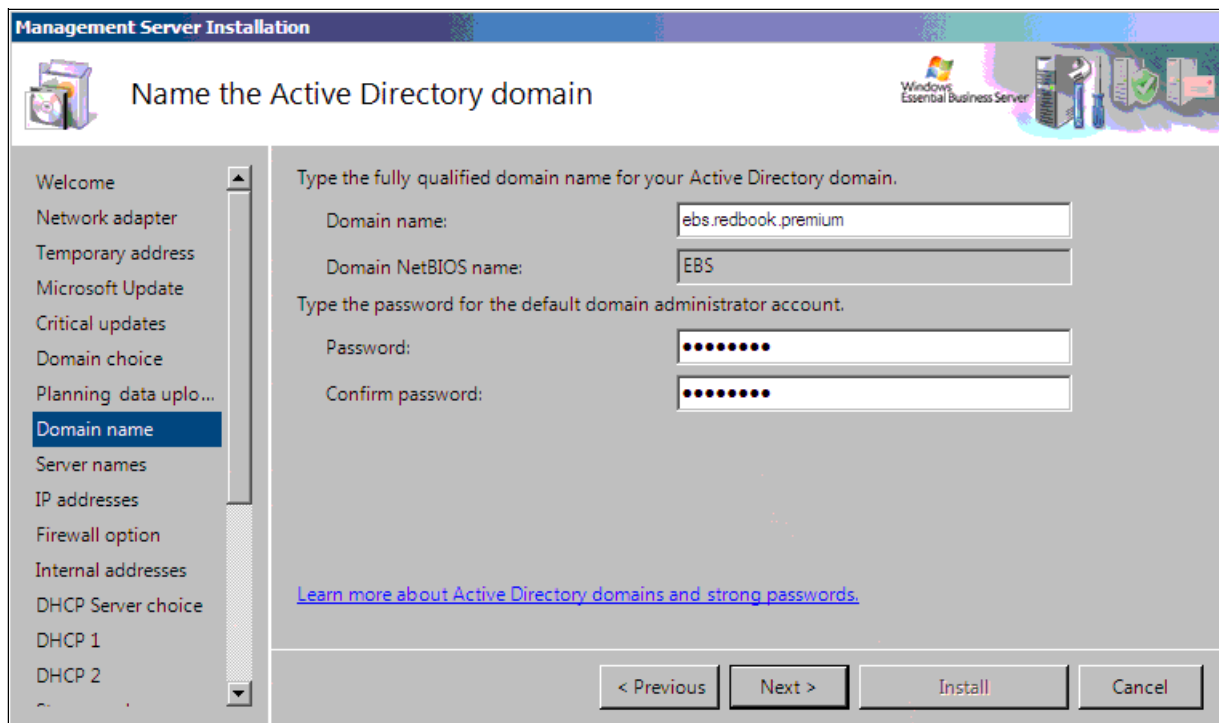

Figure 4-9 Name the Active Directory domain
- i. Type the name of your new domain and the credentials for the default domain administrator account in the “Name the Active Directory domain” panel (Figure 4-9). Click **Next**.